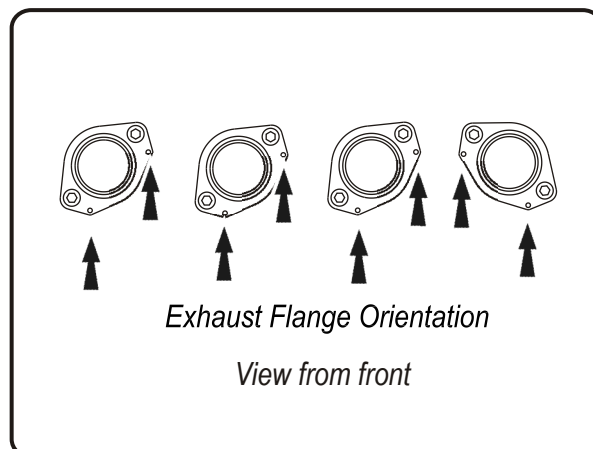

Fig. 4
- 7 Install Yoshimura manifolds and flanges into exhaust ports using stock header bolts (see Fig. 4 for flange orientation). Install exhaust springs onto flanges for ease of installation.